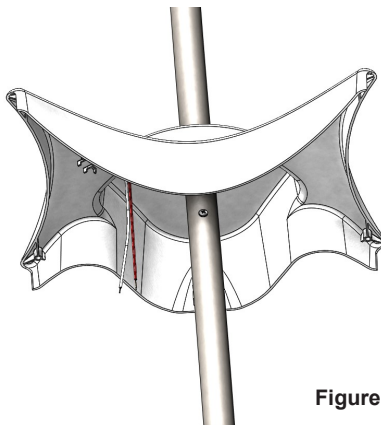

Figure 5: M3 post screw.
- Slide the cover towards the flared end of the post as far as possible. Then re-install the M3 screw into the post. This is to hold the cover up while other work is done. Refer to Figure 5.